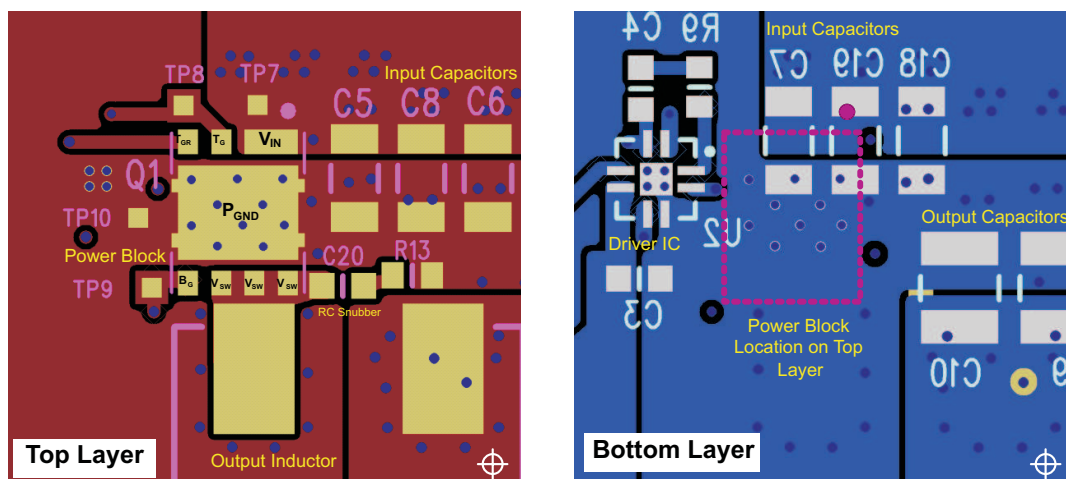

Figure 34. Recommended PCB Layout (Top Down View)
- The placement of the input capacitors relative to the power block's VIN and PGND pins should have the highest priority during the component placement routine. It is critical to minimize these node lengths. As such, ceramic input capacitors need to be placed as close as possible to the VIN and PGND pins (see Figure 34). The example in Figure 34 uses 6 × 10-μF ceramic capacitors (TDK part C3216X5R1C106KT or equivalent). Notice there are ceramic capacitors on both sides of the board with an appropriate amount of vias interconnecting both layers. In terms of priority of placement next to the power block, C5, C7, C19, and C8 should follow in order.
- The switching node of the output inductor should be placed relatively close to the power block VSW pins. Minimizing the node length between these two components will reduce the PCB conduction losses and actually reduce the switching noise level. In the event the switch node waveform exhibits ringing that reaches undesirable levels, the use of a boost resistor or RC snubber can be an effective way to easily reduce the peak ring level. The recommended boost resistor value will range between 1 Ω to 4.7 Ω depending on the output characteristics of driver IC used in conjunction with the power block. The RC snubber values can range from 0.5 Ω to 2.2 Ω for the R and 330 pF to 2200 pF for the C. Please refer to Snubber Circuits: Theory, Design and Application (SLUP100) for more details on how to properly tune the RC snubber values. The RC snubber should be placed as close as possible to the VSW node and PGND see Figure 34.⁽¹⁾
- Use the smallest drill size allowed in your design. The example in Figure 34 uses vias with a 10-mil drill hole and a 16-mil capture pad.